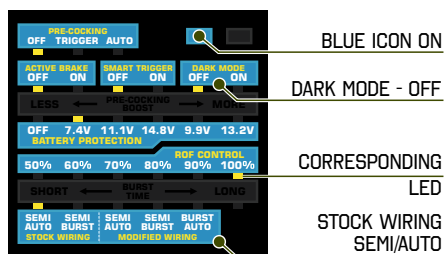

FIG 5.
2. Connect the **WARFET Power Module** to the **Programming Card**. All current settings are displayed on the corresponding LEDs (Fig 5.).
3. When the **BLUE ICON** is on, check only on the blue display of the **Programming Card** (Fig 5.).